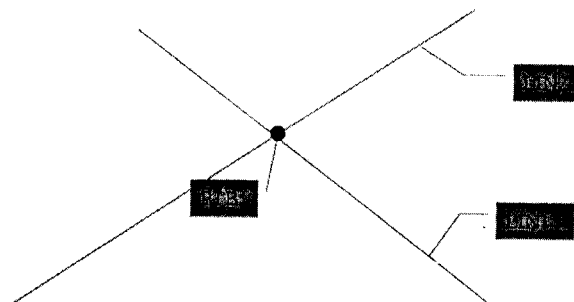

Figure 2
9. Formulate an APT Statement for the following diagram given in figure 2. (C.O.NO.1) [Application]